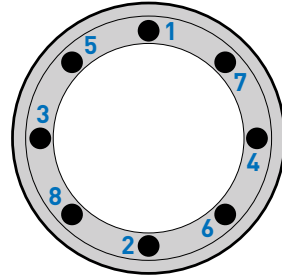

Figure 5 – The tightening sequence for the assembly of the slip ring
- The screws should be tightened evenly diagonally, alternately (Figure 5).